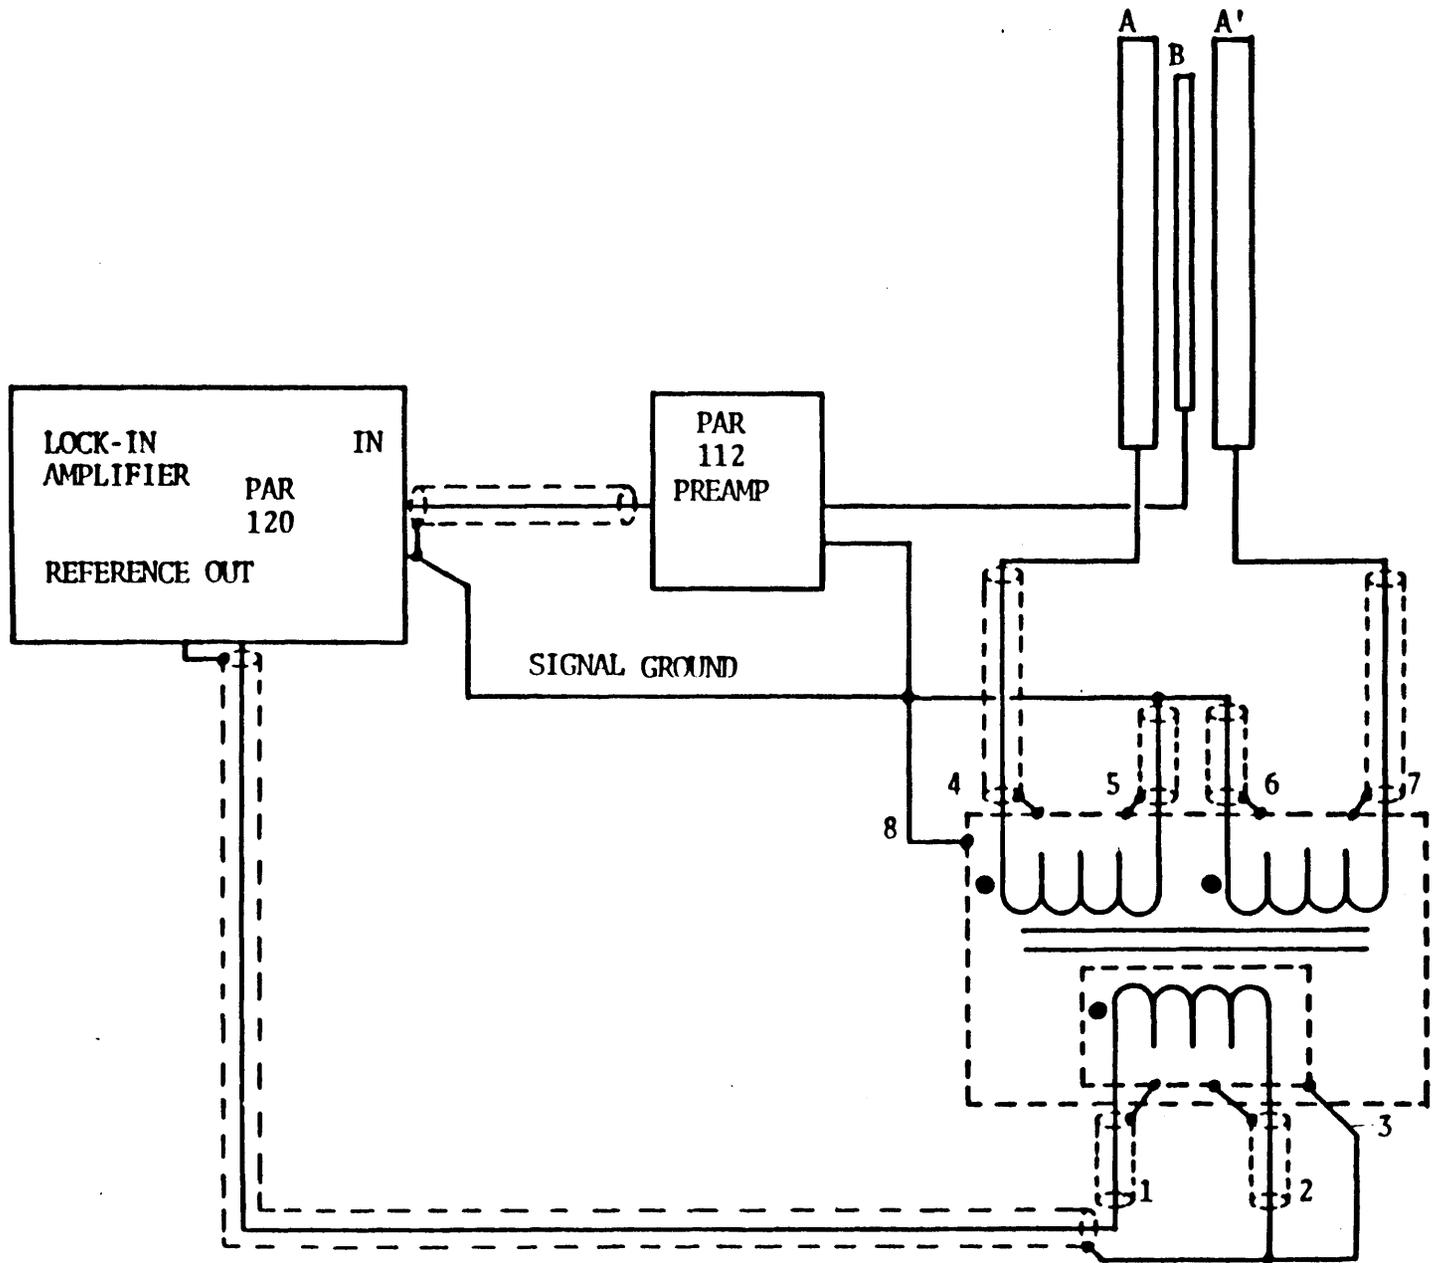
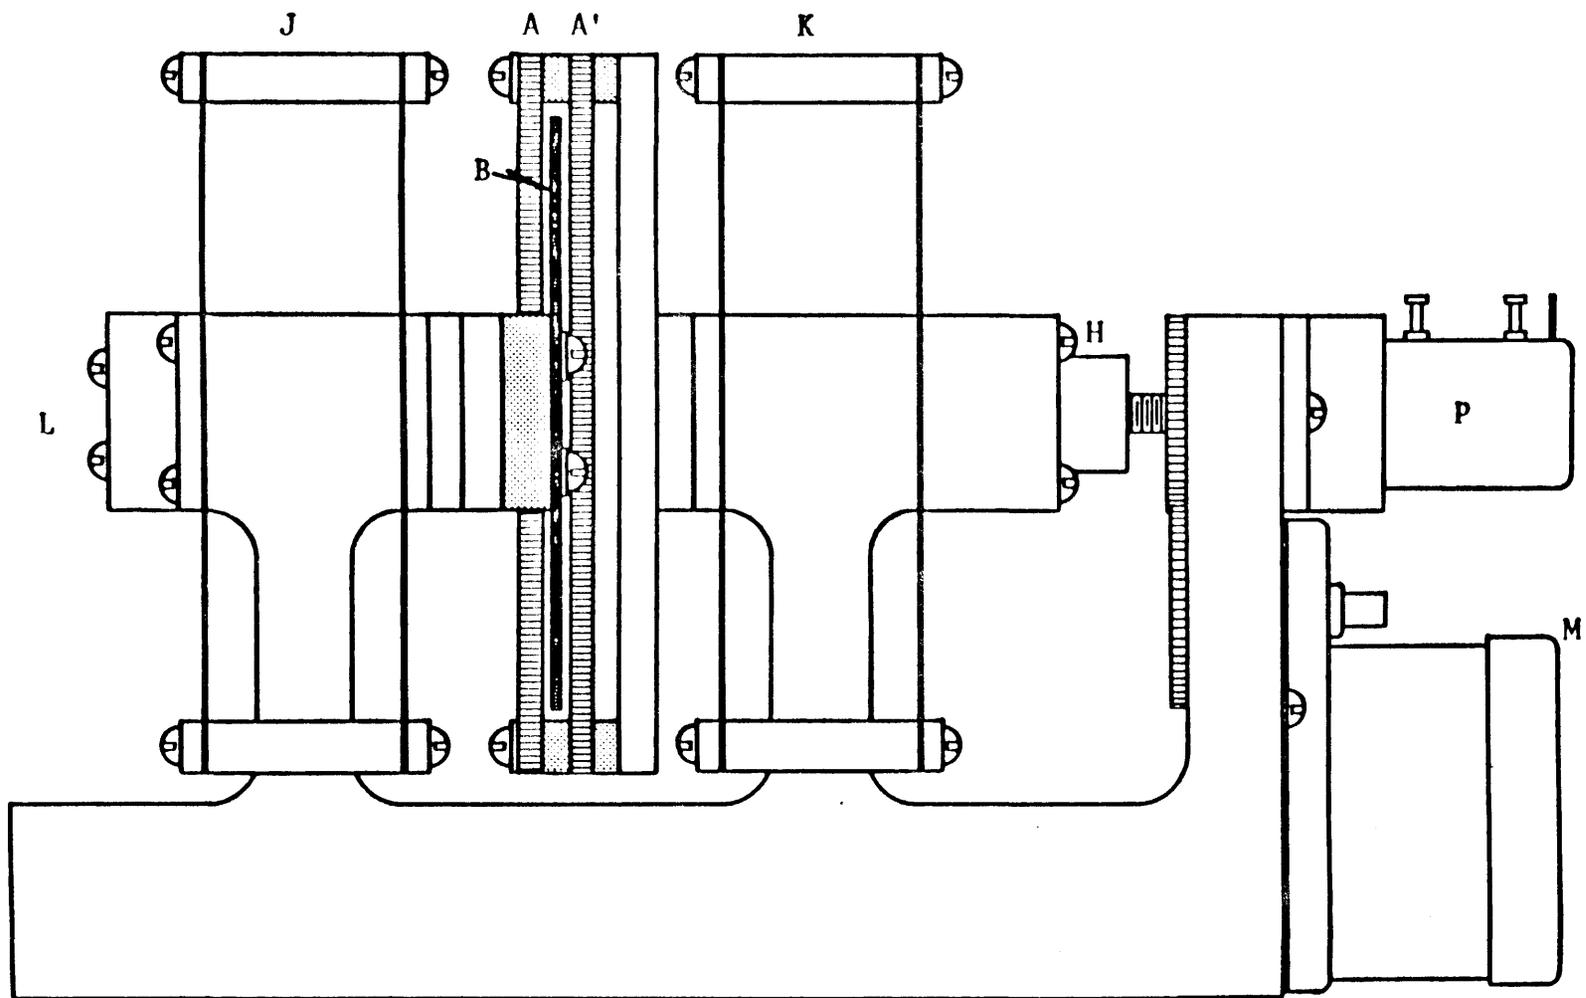

Fig. 2
Fig. 1
(Fig. 1, K). The spring system K carries the drive plates (Fig. 1, A, A') which are insulated from each other and the LINX frame. This spring system provides accurate parallel motion over the range of adjustment of the micrometer head H.
A similar cantilever spring system (Fig. 1, J) provides parallel motion of the moving plate (Fig. 1, B) for a force supplied to (Fig. 1, L). The motor (Fig. 1, M) is a 1/10 RPM 110 VAC reversible motor Haydon #L81373-P4-F2 with an internal slip clutch. The potentiometer is a 5 turn, 10K ohm model with linearity 1/2%.
- 1) The system is wired as shown in Fig. 2.
- 2) The center plate B is offset visibly by the use of the motor (Fig. 1, M).
- 3) The reference drive voltage V_D is set to the desired voltage (about 1 - 10 volts) using an oscilloscope or RMS voltmeter. The specially balanced transformer supplied provides a 4 to 1 voltage increase from primary to each secondary. The PAR Model 112 preamplifier output is observed with an oscilloscope. It should appear as a clean sine wave at the driving frequency, and its amplitude should vary smoothly as the relative displacement of the center and outer plates is changed (e.g., by use of the calibrator motor, Fig. 1, M).
plished by a phase-sensitive detector or lock-in amplifier (Fig. 2).
The detector contains an internal oscillator which provides a reference voltage at the carrier frequency. This voltage is fed into the primary of a precision transformer with balanced split secondary windings (Fig. 2). The balanced secondaries provide the two out-of-phase drive voltages $\pm V_D$ which are applied to the drive plates A, A'.
Fig. 2 summarizes the electrical connections for the capacitive position sensor using a Princeton Applied Research Model 120 lock-in amplifier and a Princeton Applied Research Model 112 preamplifier. The transformer primary is electrostatically shielded. The primary electrostatic shield (Fig. 2, pin 3) is connected to the outer conductor of the coaxial drive cable. A second electrostatic shield surrounds both the primary and secondary coils. This shield is connected to the shields of the secondary leads and to signal ground as shown in Fig. 2. The secondary ground connection is separate from the primary ground connection. The secondary ground connection is the signal ground for the input to the phase-sensitive detector.
Secondary transformer leads (Fig. 2, pins 4, 7) are connected to the drive plates A and A', respectively and the signal lead is connected to the movable plate (Fig. 1, B). The shields for the secondary leads are connected to signal ground at only one end as shown in Fig. 2.
The motor (Fig. 1, M) is insulated from the LINX frame. The motor is used only to drive the micrometer head (Fig. 1, H) which in turn adjusts the position of the folded cantilever spring system
The capacitance position sensor consists of three plane parallel plates (Fig. 1: A, A', B). The outer two drive plates (Fig. 1: A, A') are driven by voltages at a fixed carrier frequency ($10\text{-}20 \text{ kHz}$). The drive voltages have the same magnitude but are 180° out of phase. The moving center plate (Fig. 1: B) located between the two drive plates carries the signal voltage V_s . Neglecting fringing fields and assuming plane parallel configuration of the plates, V_s is